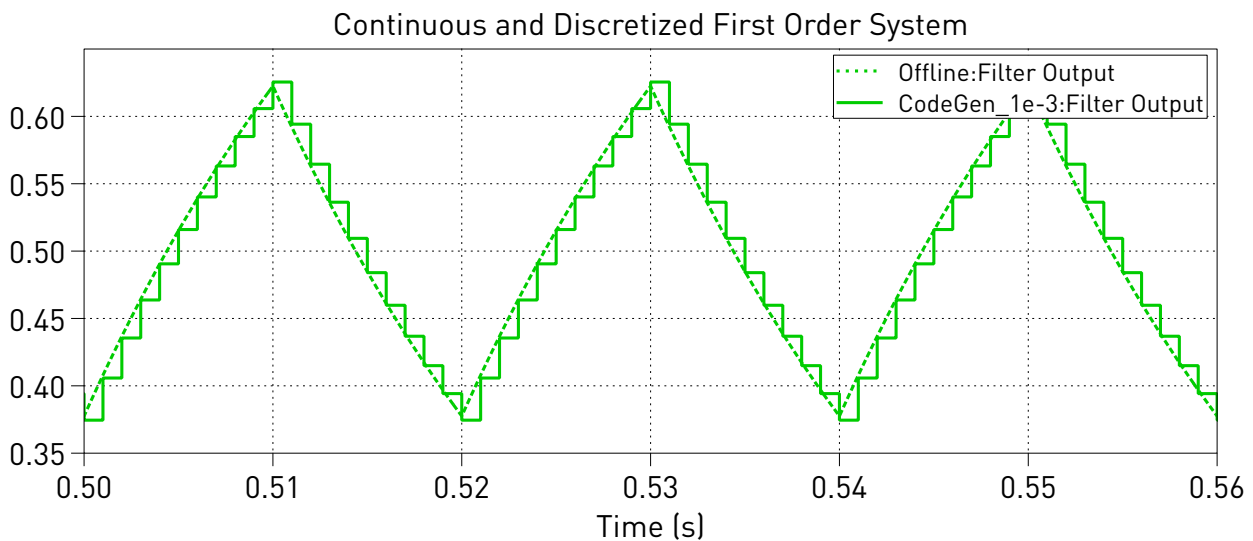

Figure 11: Comparison between “Offline” and “CodeGen” results
- 6 Run the simulation and save all new Scope traces as “CodeGen_1e-3”. Notice the Scope within the Subsystem did not update. Open the Scope on the top-level schematic and zoom into the waveforms until the impact of system discretization is apparent. Figure 11 shows the output from the simulation.